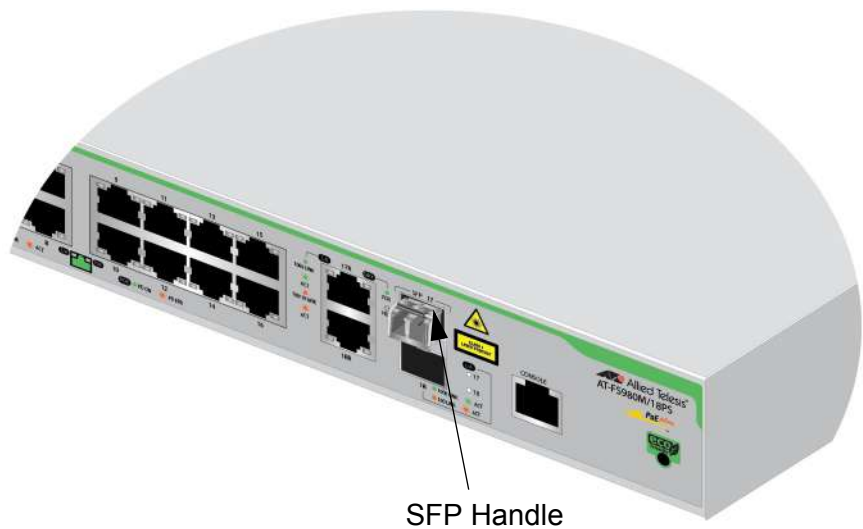

Figure 32. Positioning the SFP Handle in the Upright Position
4. If the transceiver is installed in the top slot, verify that the handle is in the upright position, as shown in Figure 32. If the transceiver is installed in the bottom slot, verify that the handle is in the down position.